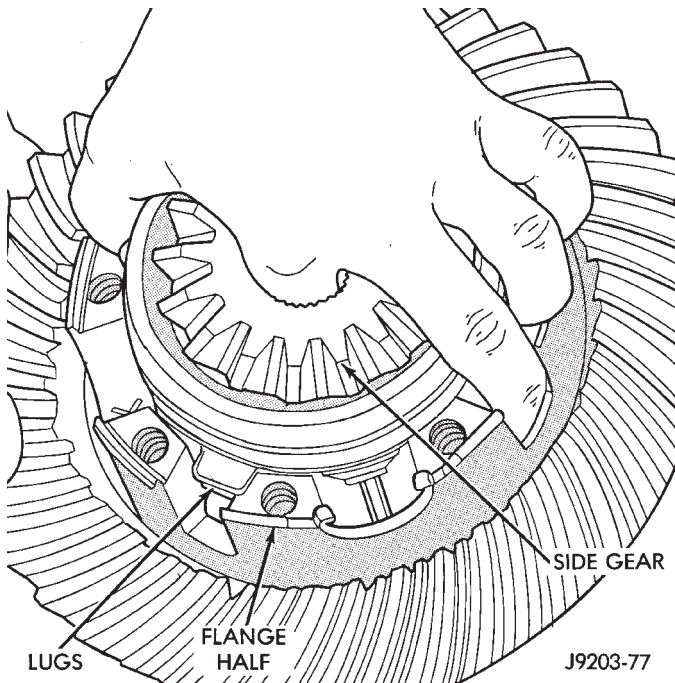
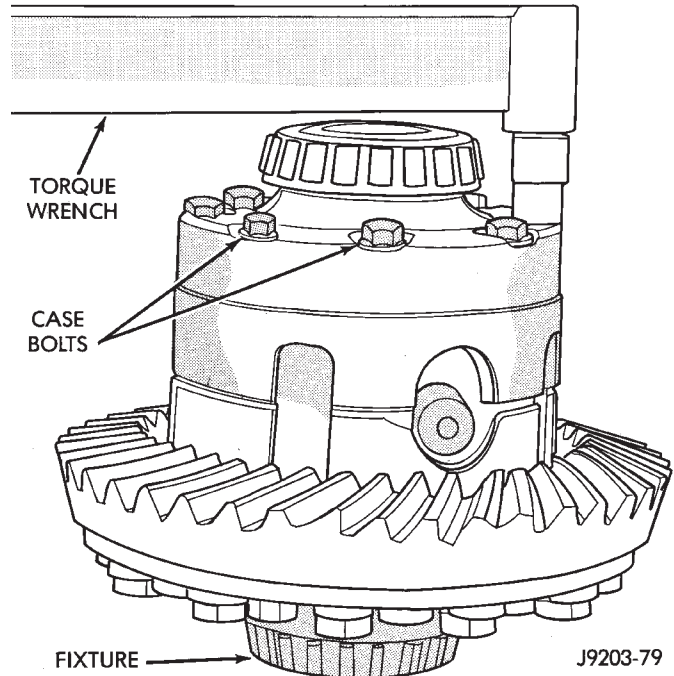

Fig. 43 Clutch Pack Installation
Fig. 45 Case Half Installation
- (2) Line up the plate ears and install the assembled pack into the flange half (Fig. 43). Make sure the clutch plate lugs enter the slots in the case. Also make sure the clutch pack bottoms out on the case.
- (4) Lubricate and install the other side gear and clutch pack (Fig. 43).
- (5) Correctly align and assemble button half to flange half. Install case body screws finger tight.
- (6) Tighten body screws alternately and evenly. Tighten screws to 89-94 N·m (65-70 ft. lbs.) torque (Fig. 45).